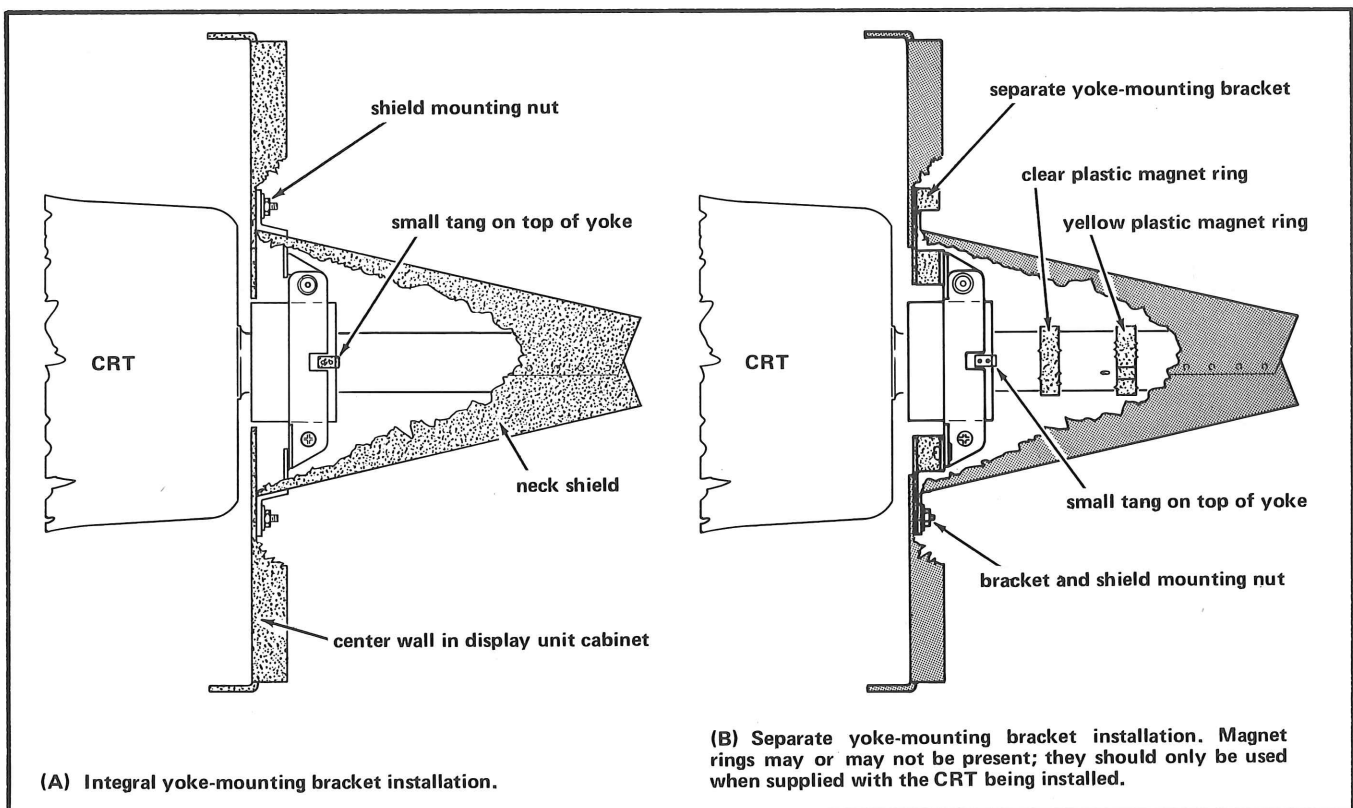

Fig. 3-3. The two types of yoke-mountings.
**Introduction.** There are two types of yoke-mounting hardware in use in the Terminal. The original type (integral yoke-mounting bracket) is shown in Fig. 3-3(A). Fig. 3-3(B) depicts the latest version (separate yoke-mounting bracket).